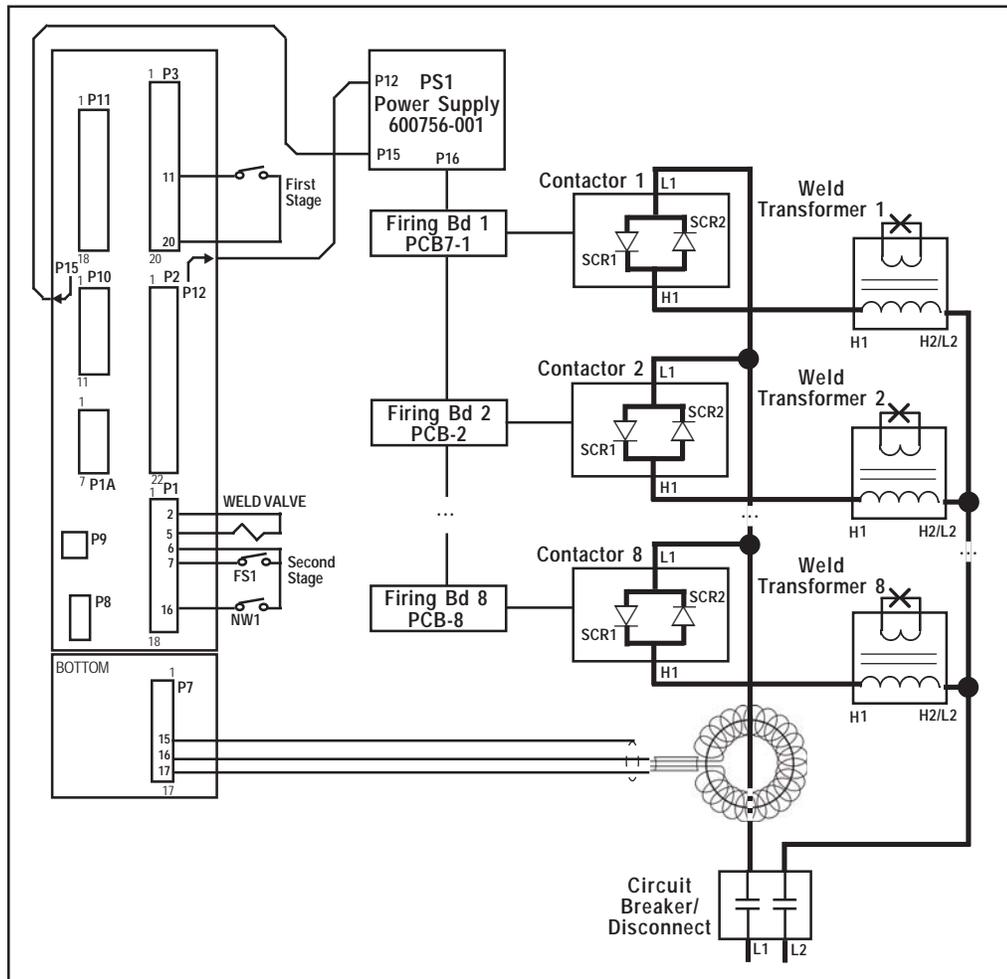

Figure 6-1. Basic connections
1. Make basic connections as shown in Figure 6-1. Additional connections (see Section 4.5.3) may be needed, depending on installation requirements, but connections shown are the most basic which are required in order to run equipment. For your convenience, many electrical and mechanical connections have been performed at the factory. Refer to Wiring Diagram for other connections.
5. Place the control in No Weld. Use either RPP2's **WELD/NO WELD** feature (see Section 5.1) or External Weld/No Weld Switch connected to Terminal Strip between NW1 and FSC (see Figure 6-1).